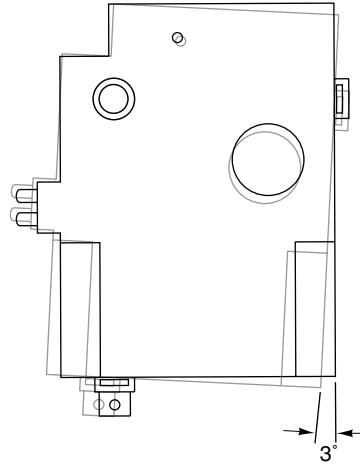

Figure-4 CW Mounting.
5. Rotate controller CCW about three degrees off centerline of VAV terminal and tighten output shaft set screws to 25 in-lb (0.28 Kg-meters). See Figure-4.